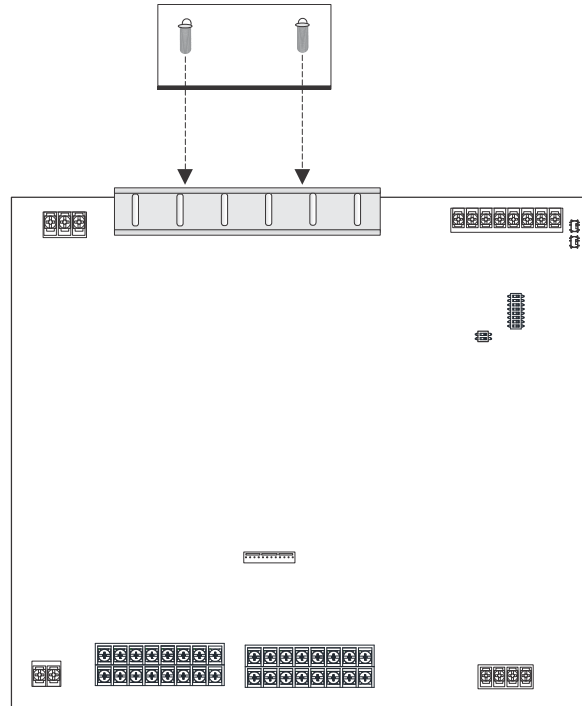

Figure 4.36 EVS-100WBD Mounting Bracket
3. Secure the supplied “L-shaped” bracket to the top mounting bracket on the EVS-100WBD with the two mounting screws. See Figure 4.36.